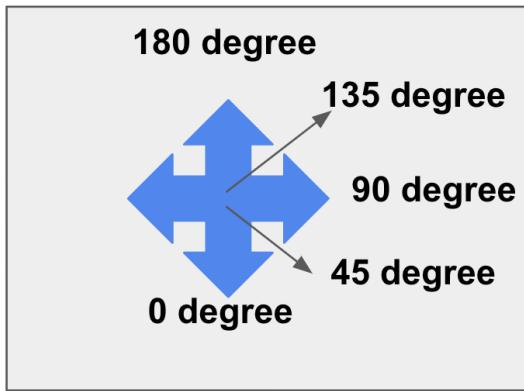

Figure 3.3: Angle reference from beacon on each block
- **Step1:** Collection of data in the lab. Data has been collected in an indoor environment ( 14x10 square feet area) Each block area is around 2 feet. (Refer Figure 3.3 and 3.4)